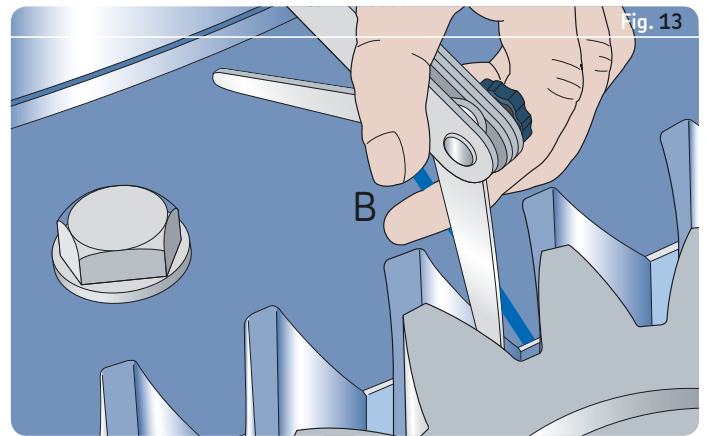

Fig. 13
- 16** For geared slewing bearings, check the backlash, using a feeler gauge, after positioning the pinion (**fig. 13**). The measurement has to be made at the **blue mark** on the bearing gear, which indicates the point where the backlash is smallest. Required values for backlash are listed in **table 1** on **page 25**. If these values are not attained, correct the backlash by adjusting the distance between the centres of the gear wheels.